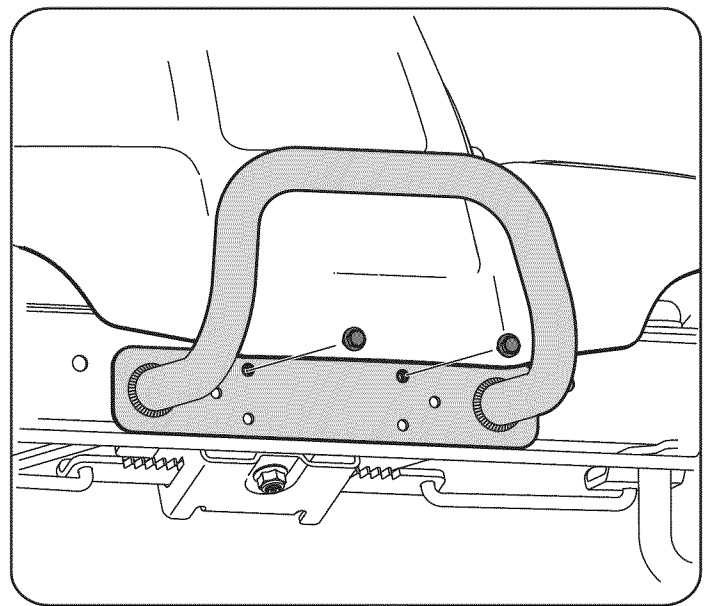

Figure 10
1. Remove the two screws as shown in Fig. 10.
2. Position the bumper over the mounting holes and secure using the hardware removed in Step 1, as shown in Fig. 10.